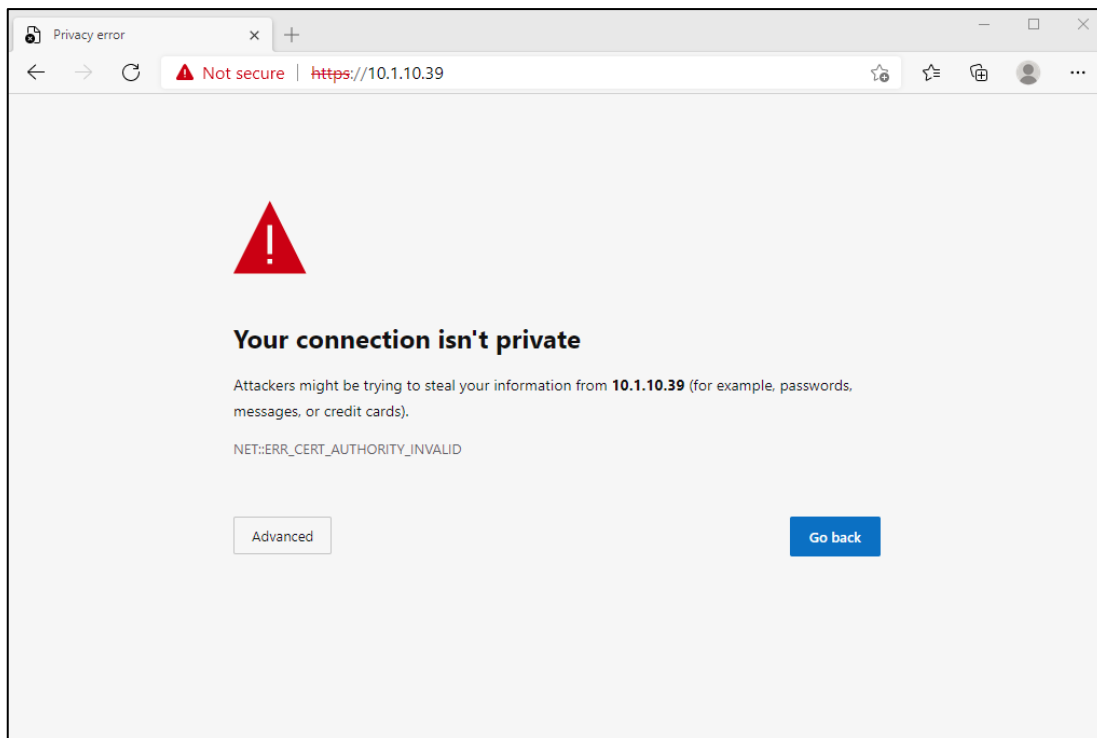

Figure 96: Accessing the built-in web server ("This site is not secure").
4. The browser might show you a warning about an invalid web server certificate, as illustrated in Figure 96. Make sure, that you have typed in the correct IP address.